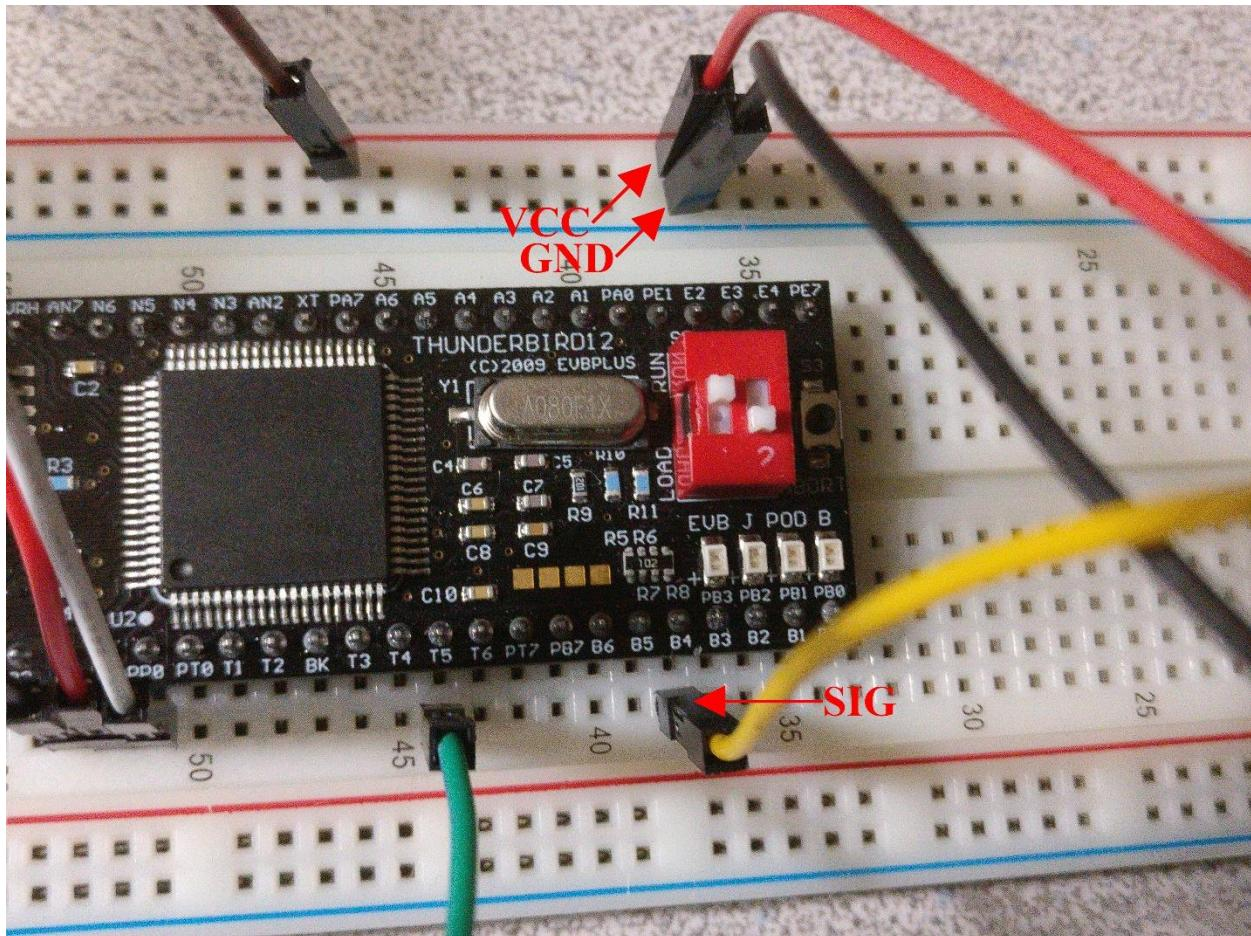

Figure 8-16 – Relay Module (LOW) connected to Thunderbird12
- b. Connect the VCC and GND wires from the relay module to the positive and negative rails, respectively, and the SIG wire from the relay module to B4 on the bottom row of the Thunderbird. Refer to Figure 8-16 for an example of what the wiring should look like.